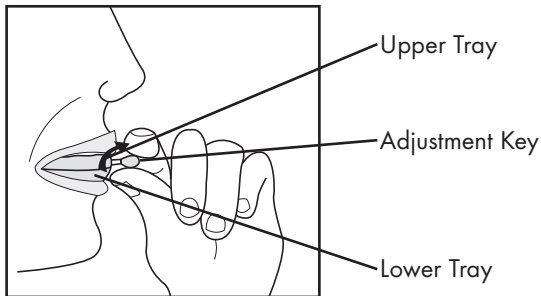

Fig. 28.1 Patient advancing the lower jaw forward.
1. To pull the lower jaw forward with the appliance in the mouth, instruct the patient to turn the Adjustment Key counter clockwise (towards the left ear). See figure 28.1.